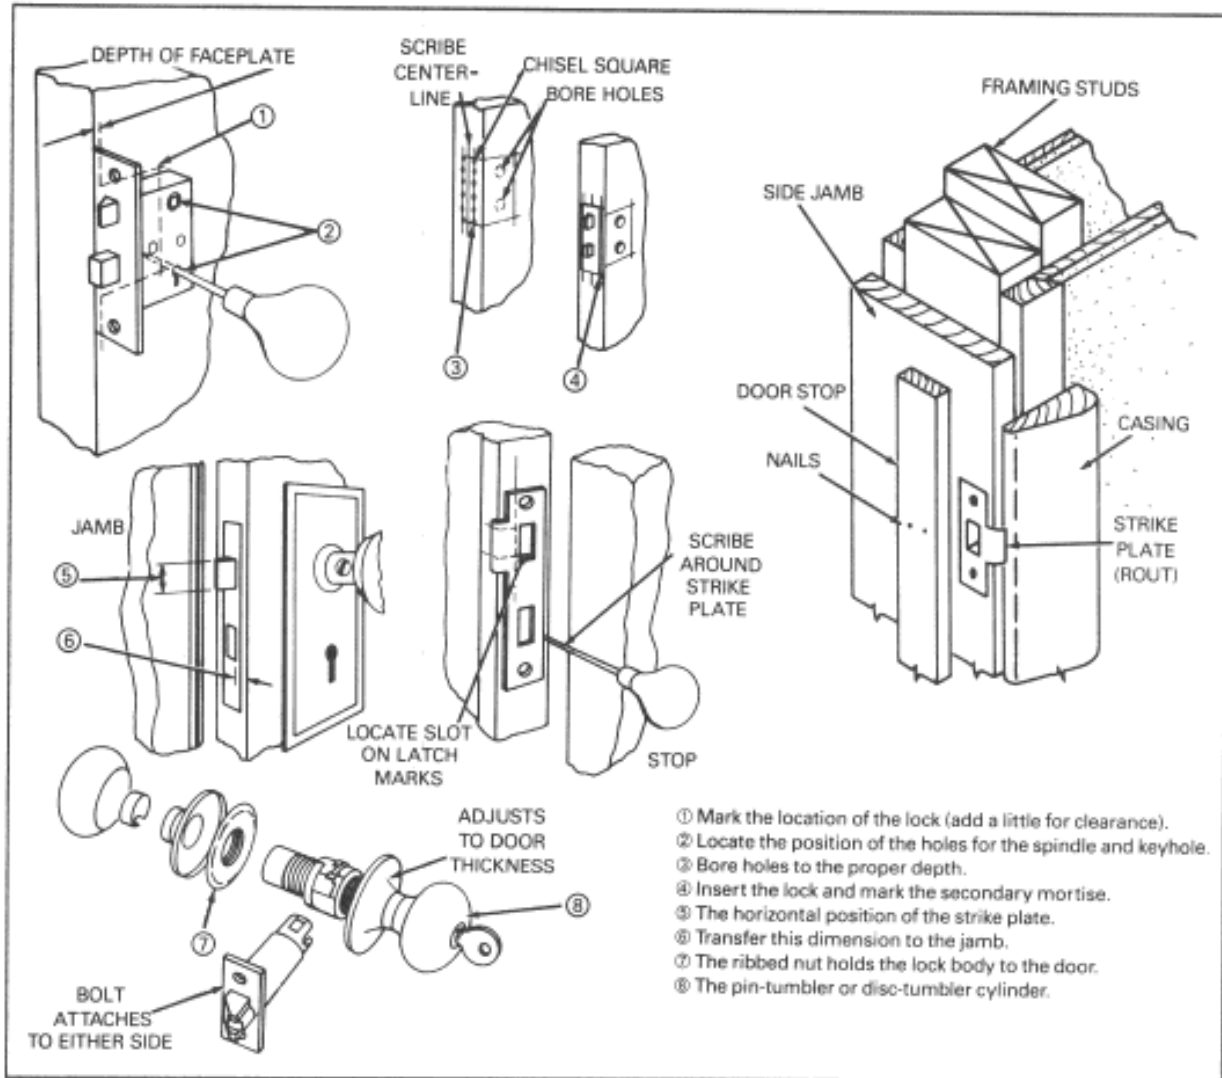

Figure 8-13. Installing lock and strike plate
*Step 5.* Bore out the wood to house the lock and the strike plate and mortises. (Figure 8-13, page 8-10, shows the installation of the lock and the strike plate.)